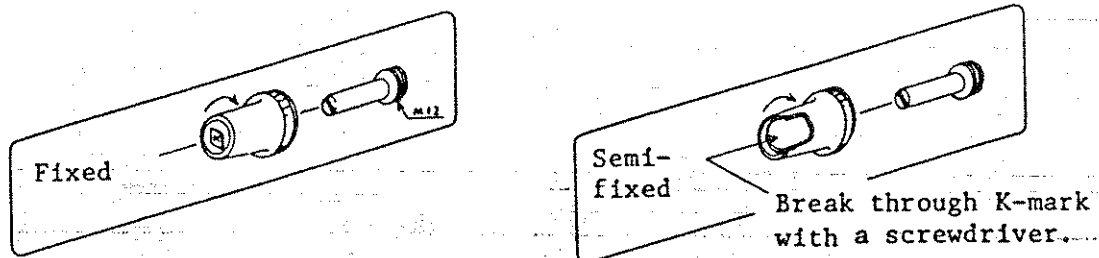

Figure 2-7
6. Voltage setting knob: Adjusts output voltage for constant-voltage operation. 10-turn potentiometer. (See Figure 2-7.)